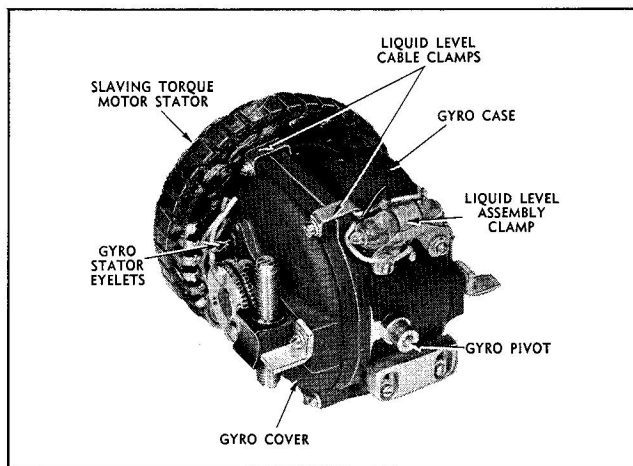

Figure 2-13 Gyro and Slaving Torque Motor Assembly
(f) Removing The Slaving Torque Motor And Liquid Level Assembly. Unsolder the three leads for the gyro stator from the eyelet assemblies. Be careful not to strain the eyelets as they are set in glass insulators. (See figure 2-13.)
(2) Remove two fillister-head screws, lockwashers, and the clamp which holds the liquid level to the gyro case. (See figure 2-13.) Be extremely careful not to damage the liquid level assembly in any way, particularly at the points at which the connections are molded into the glass.